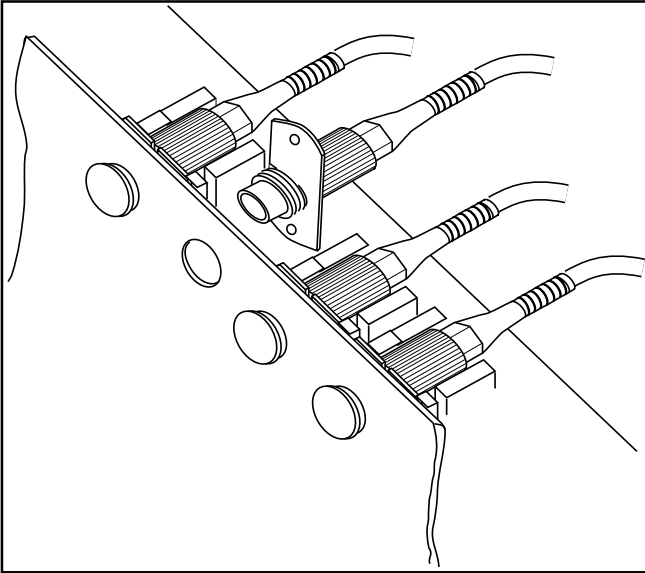

Figure 14
11.5 Slide the retainer out of the way along the pigtail and pull the connector assembly back (Figure 14).